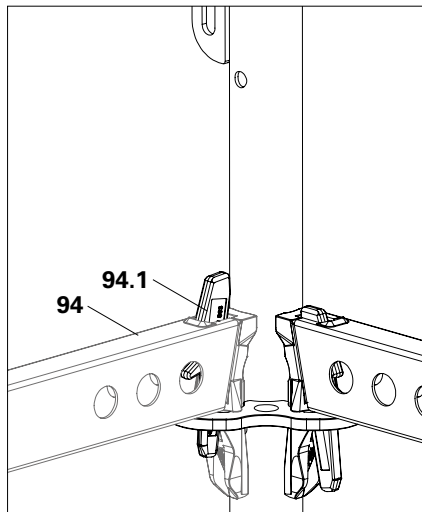

Fig. A2.02
3. Secure the wedges with a jarring blow using a 500 g hammer. (Fig. A2.02 – A2.03)